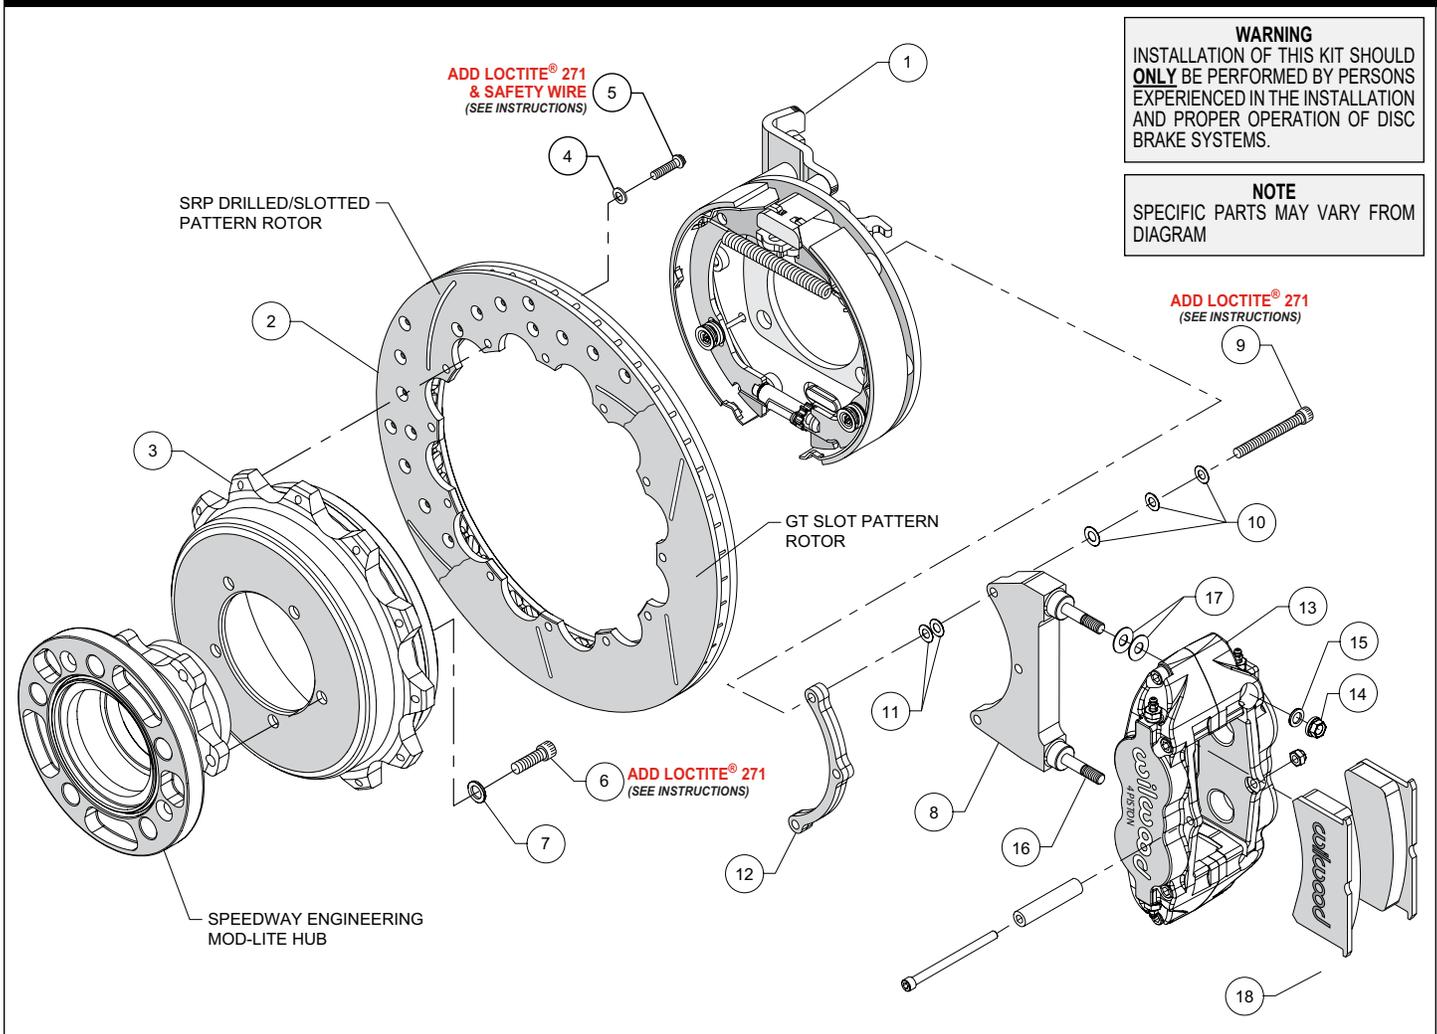
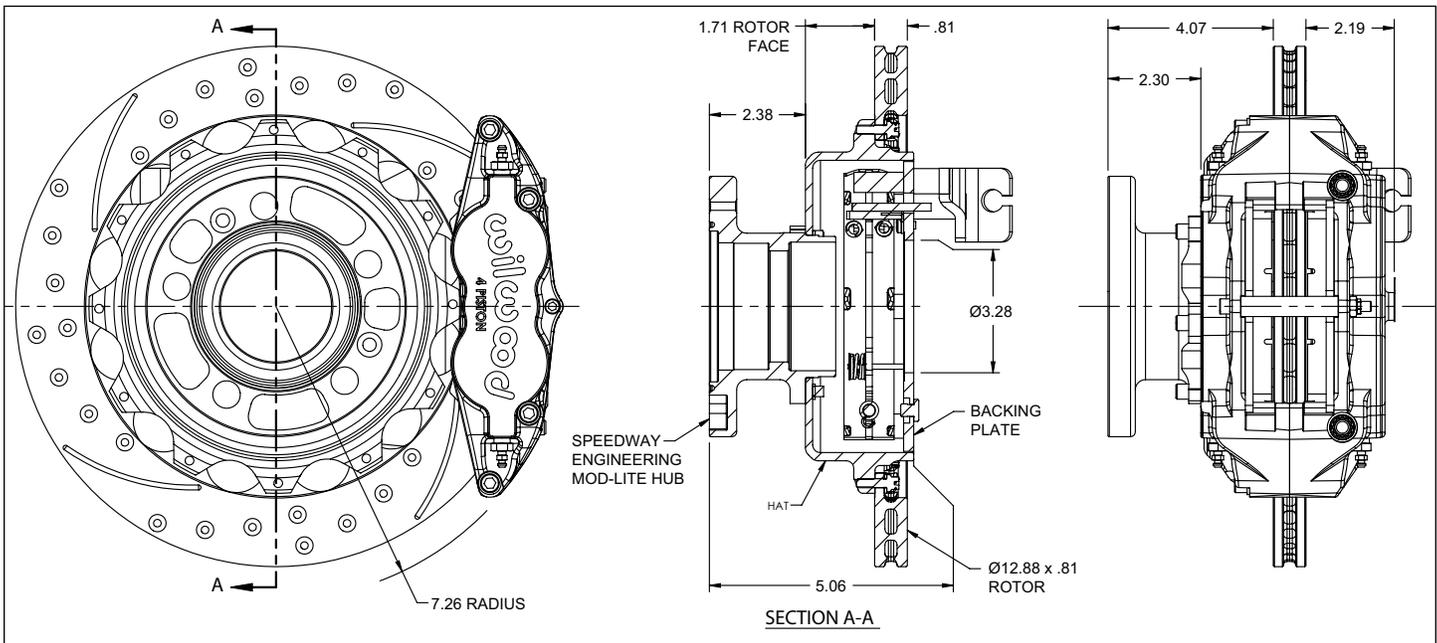
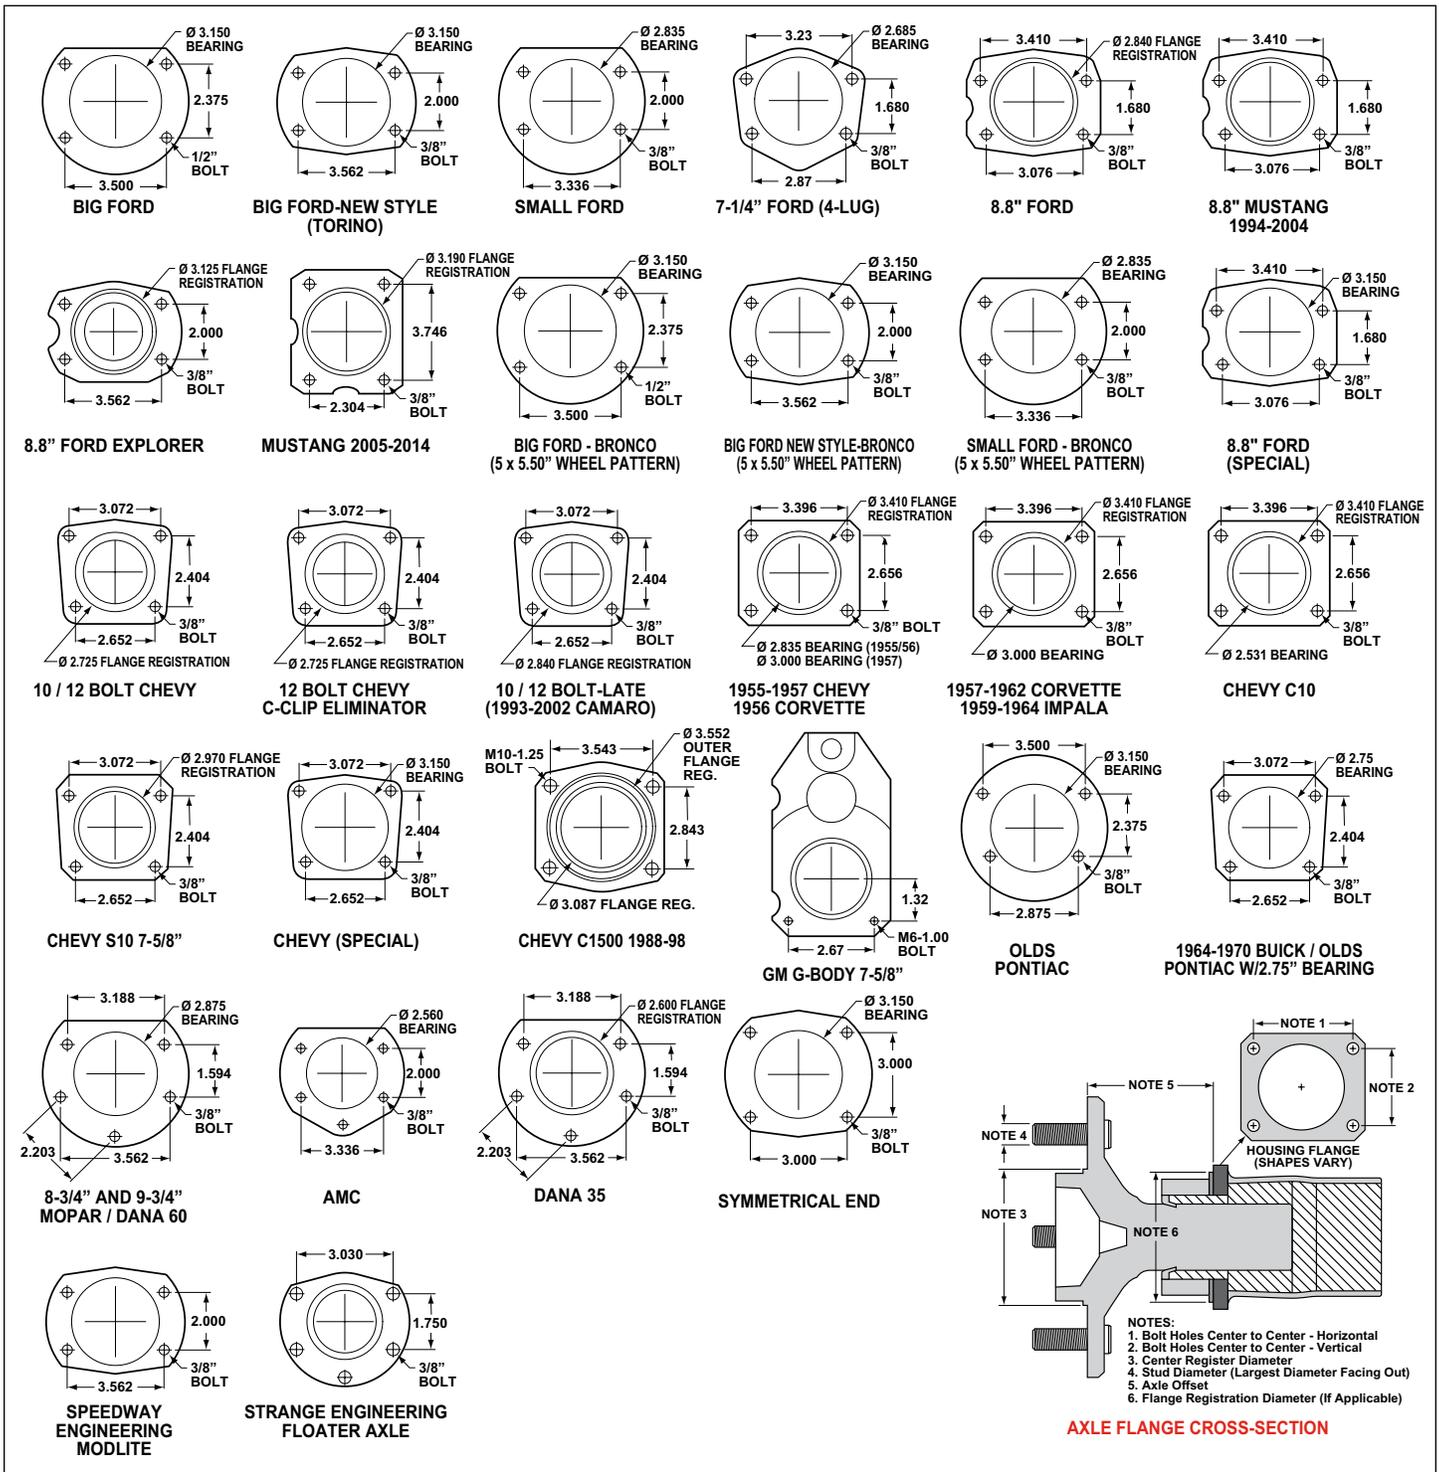

Figure 1. Typical Installation Configuration
Figure 2. Kit Mounting Dimensional Characteristics
Figure 4. Rear Housing Flange Chart and Axle Flange / Offset Cross-Section
- This kit requires a New Style Big Ford mounting flange (see Figure 4) on the axle housing at a distance of 5.06" offset from the face of the installed Speedway Engineering hub, Figure 2.
Assembly Instructions (numbers in parenthesis refer to the parts list, and Figure 1 on the preceding pages):
- Orient the bracket assembly (1) as shown in Figure 1 and secure to the axle housing using customer supplied bolts and nuts. Ensure that the bracket assembly backing plate fits flush against the axle housing flange.
- The caliper mounting bracket (8) should initially be installed with clean, dry threads on the mounting bolts (9). Orient the bracket as shown in Figure 1 and install using bolts (9), washers (10), shims (11) and spacer (12). Initially place two .015" shims (11) on each bolt between the bracket and the spacer. Temporarily tighten the mounting bolts. **NOTE: End of bolt should not exceed inside face of insert. The bracket must tighten squarely against the back side of the bracket kit assembly (1).** Later, after the caliper alignment has been checked, the mount bolts will be secured using red *Loctite*® 271.
- Orient the rotor (2) and the hat (3) as shown in Figure 1 and Photo 1. Attach rotor to hat using bolts (5) and washers (4). Apply red *Loctite*® 271 to the bolt threads and torque to 155 in-lb using a criss-cross pattern. For an added measure of security, the bolts may be safety wired using standard 0.032 inch diameter stainless steel safety wire as shown in Figure 2. Refer to Wilwood's data sheet DS-386 (available at www.wilwood.com/Pdf/DataSheets/ds386.pdf) for complete safety wire installation instructions.
- Attach the rotor/hat assembly (2/3) to the hub (Speedway Engineering, customer supplied) using bolts (6) and washers (7) as shown in Figure 1. Apply red *Loctite*® 271 to the bolt threads and torque to hub manufacturer's specifications. Slide the rotor/hat assembly into place on the axle housing.
- Initially place two .035" thick shims (17) on each stud between the caliper and the bracket, as shown in Figure 1 and Photo 2. Mount the caliper (13) onto the bracket (8) using lock nuts (14) and washers (15), Figure 1. Temporarily tighten the lock nuts and view the rotor through the top opening of the caliper. The rotor should be centered in the caliper, Photo 3. If not, adjust by adding or subtracting shims (11) between the bracket and the spacer. Always use the same amount of shims on each of the two mounting bolts. Once the caliper alignment is correct, remove the bracket mounting bolts one at a time, apply red *Loctite*® 271 to the threads, and torque to 180 in-lb.
- Remove the caliper center bridge pad retainer bolt, nut, and tube from the caliper. Insert the brake pads (18) into the caliper, with the friction material facing the rotor, as shown in Photo 4. Check that the top of the brake pad is flush with the outside diameter of the rotor, Photo 5. If not, adjust by adding or subtracting shims (17) between the caliper and the bracket. After the caliper pad height is set, torque the caliper lock nuts (14) to 28 ft-lb. Secure the brake pads in place with the center bridge pad retainer tube, bolt, and locknut. The locknut should be snug without play in the bolt or tube. Be cautious not to over tighten.
- NOTE:** *Clevis and cable kits which attach to the parking brake assembly are not included in the Wilwood parking brake kit. Wilwood offers a generic style parking brake cable kit, P/N 330-9371 for this application which can be ordered separately from your local Wilwood dealer or by calling Wilwood customer service at (805) 388-1188.*
- Before final installation of the wheel, install three lug nuts, remove the rubber grommet in the bracket kit assembly (1) and adjust the parking brake shoes outward (using a drum shoe adjustment tool available at your local auto parts store) while spinning the rotor/hat (2/3) until a slight drag is felt against the hat/drum. Replace the rubber grommet when finished.